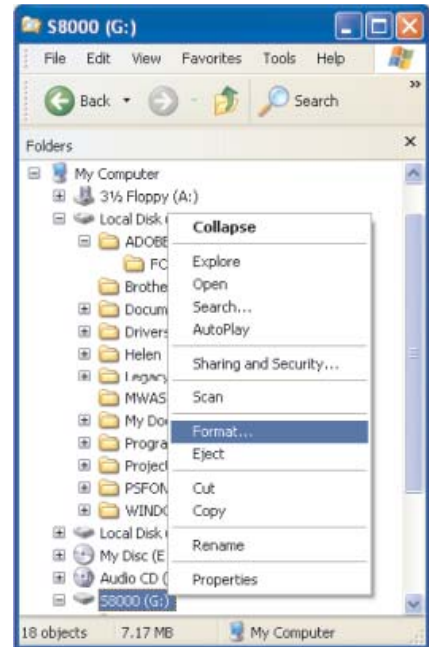
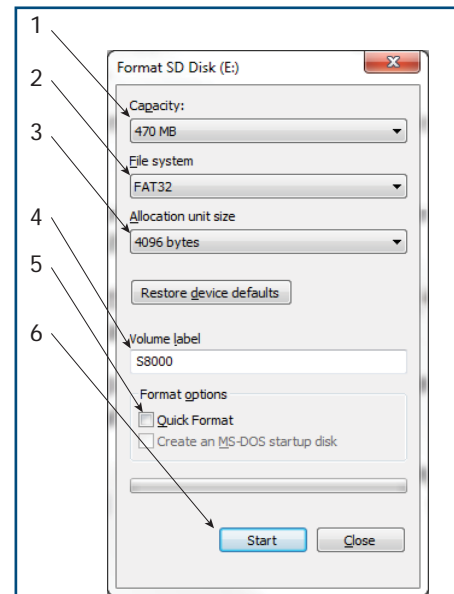

Figure 43 *Select Format*
Figure 44 *Set Format Properties*
3. The **Format** dialogue box is now presented as shown in *Figure 43*, and the disk capacity is reported on the top line (1). This will depend upon the type of disk used (470 MB in this example).
4. In the **File system** box (2), *Figure 43*, select **FAT32**.
5. In the **Allocation unit size** box (3), leave this set to Default allocation size.
6. If required, in the **Volume label** box (4), enter a volume label e.g. S8000.
7. The SD card requires a full format so leave the **Quick format** box (5) unchecked.
8. Click the **Start** button (6). The message (*Figure 44*) will now appear. Click **OK** to proceed.